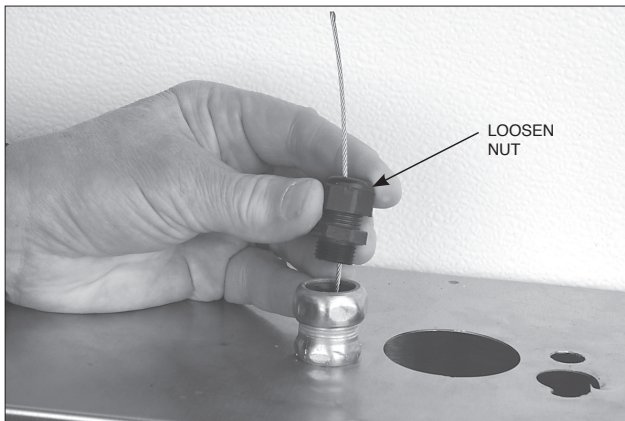

FIGURE 5-57
6. Loosen the nut on the strain relief and thread the wire rope through a strain relief. See Figure 5-57.